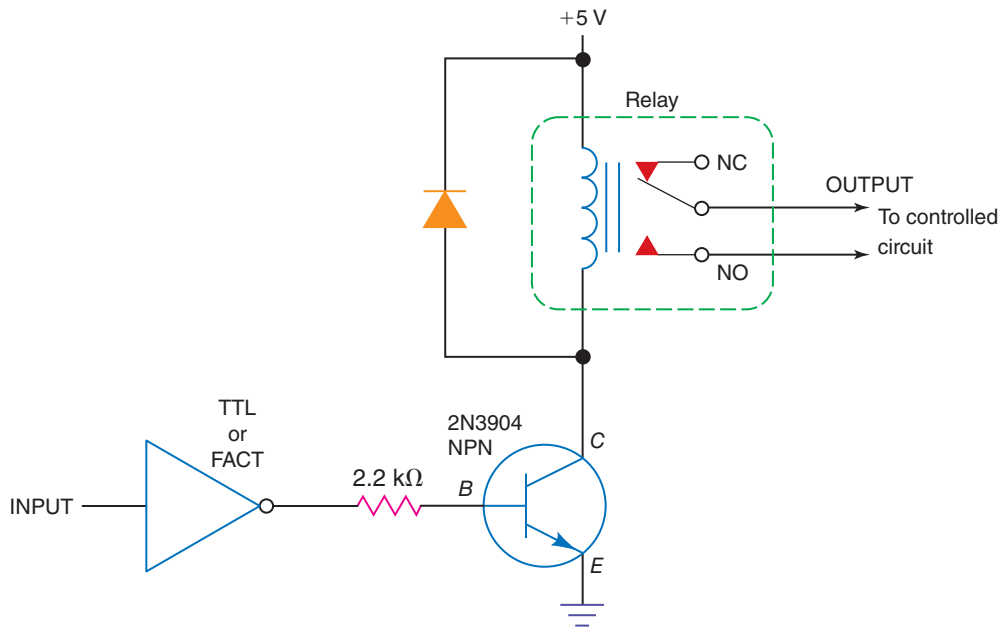

Fig. 5-26 TTL or CMOS interfaced with a relay using a transistor driver circuit.
A *relay* is an excellent method of isolating a logic device from a high-voltage circuit. Figure 5-26 shows how a TTL or CMOS inverter could be interfaced with a relay. When the output of the inverter goes HIGH, the transistor is turned on and the relay is activated. When activated, the normally open (NO) contacts of the relay close as the armature clicks downward. When the output of the inverter in Fig. 5-26 goes LOW, the transistor stops conducting and the relay is deactivated. The armature springs upward to its normally closed (NC) position. The *clamp diode* across the relay coil prevents voltage spikes which might be induced in the system.
52. Refer to Fig. 5-26. The purpose of the diode across the coil of the relay is to